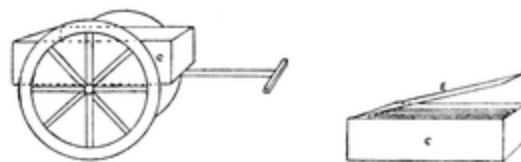

FIG. 93
The Limber (Fig. 93). This is made from a match-box (C), covered with dark grey paper and fitted with a cardboard cover E, similarly coloured. Match sticks, coloured black, form the shots. The handle consists of two match sticks, or two strips of cardboard, glued together. The wheels must be the same size as those for the gun.